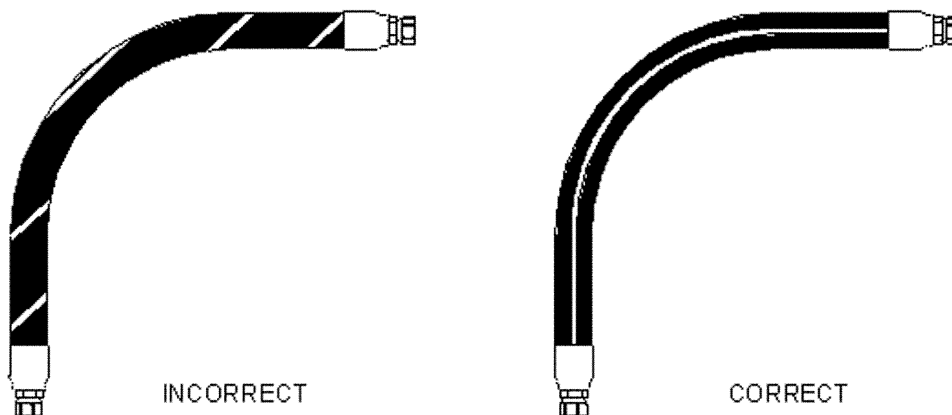

FIGURE 9—TWIST ANGLE AND ORIENTATION
7.3 Twist Angle and Orientation—Pressure applied to a twisted hose may shorten the life of the hose or loosen the connections. To avoid twisting, use the hose lay line or marking as a reference (see Figure 9).